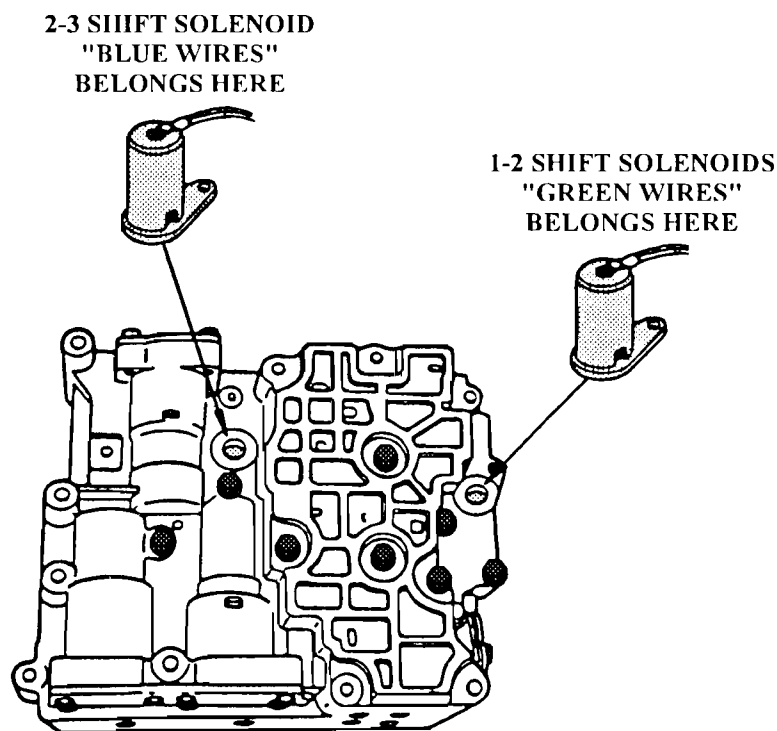
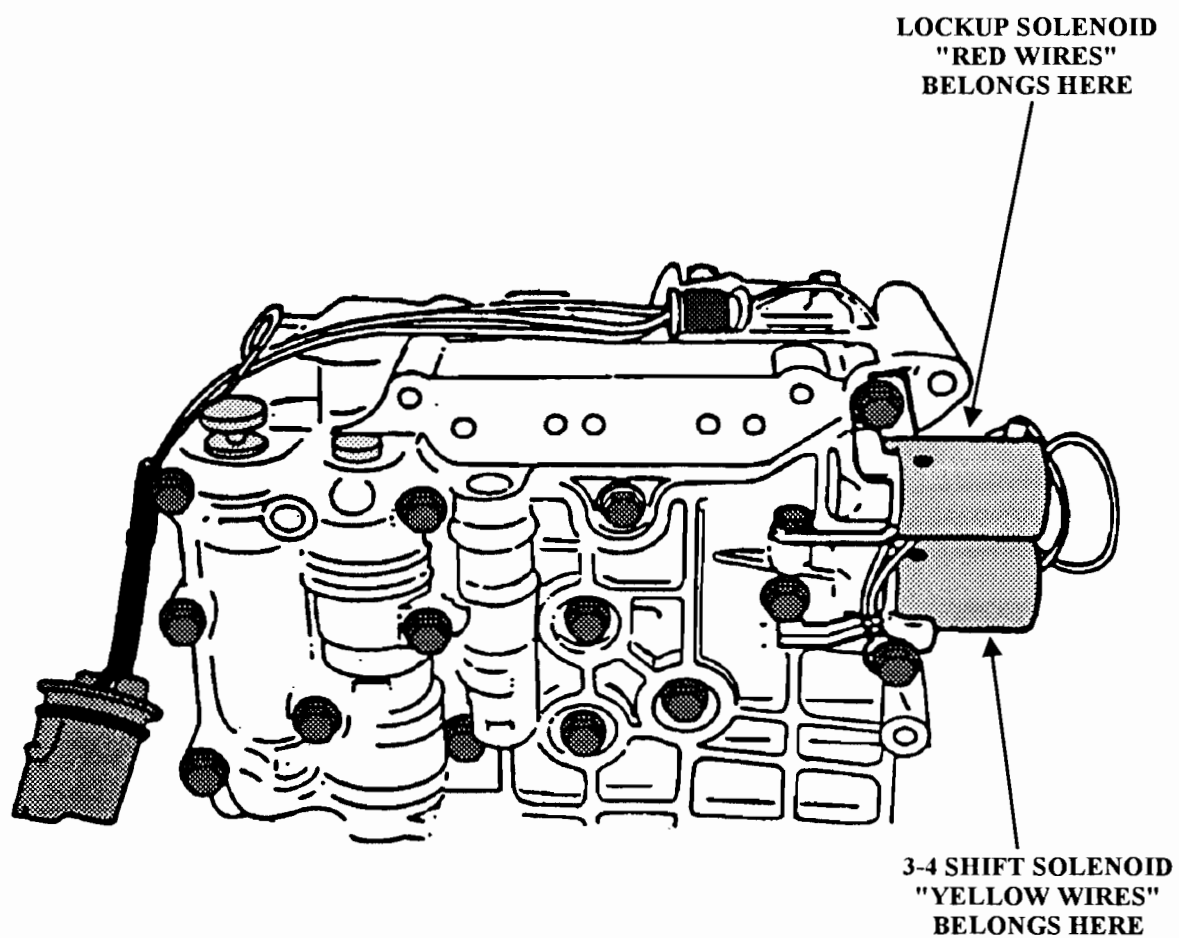

Figure 36
Figure 37
**CAUSE:** The cause may be the 1-2 shift solenoid and the 2-3 shift solenoid reversed in their locations in the valve body (See Figure 36).
**CORRECTION:** Install the shift solenoids in their proper locations, as shown in Figures 36 and 37. Use Figure 36 for the 1-2 and 2-3 shift solenoids, and Figure 37 on the following page, for the 3-4 and lockup.